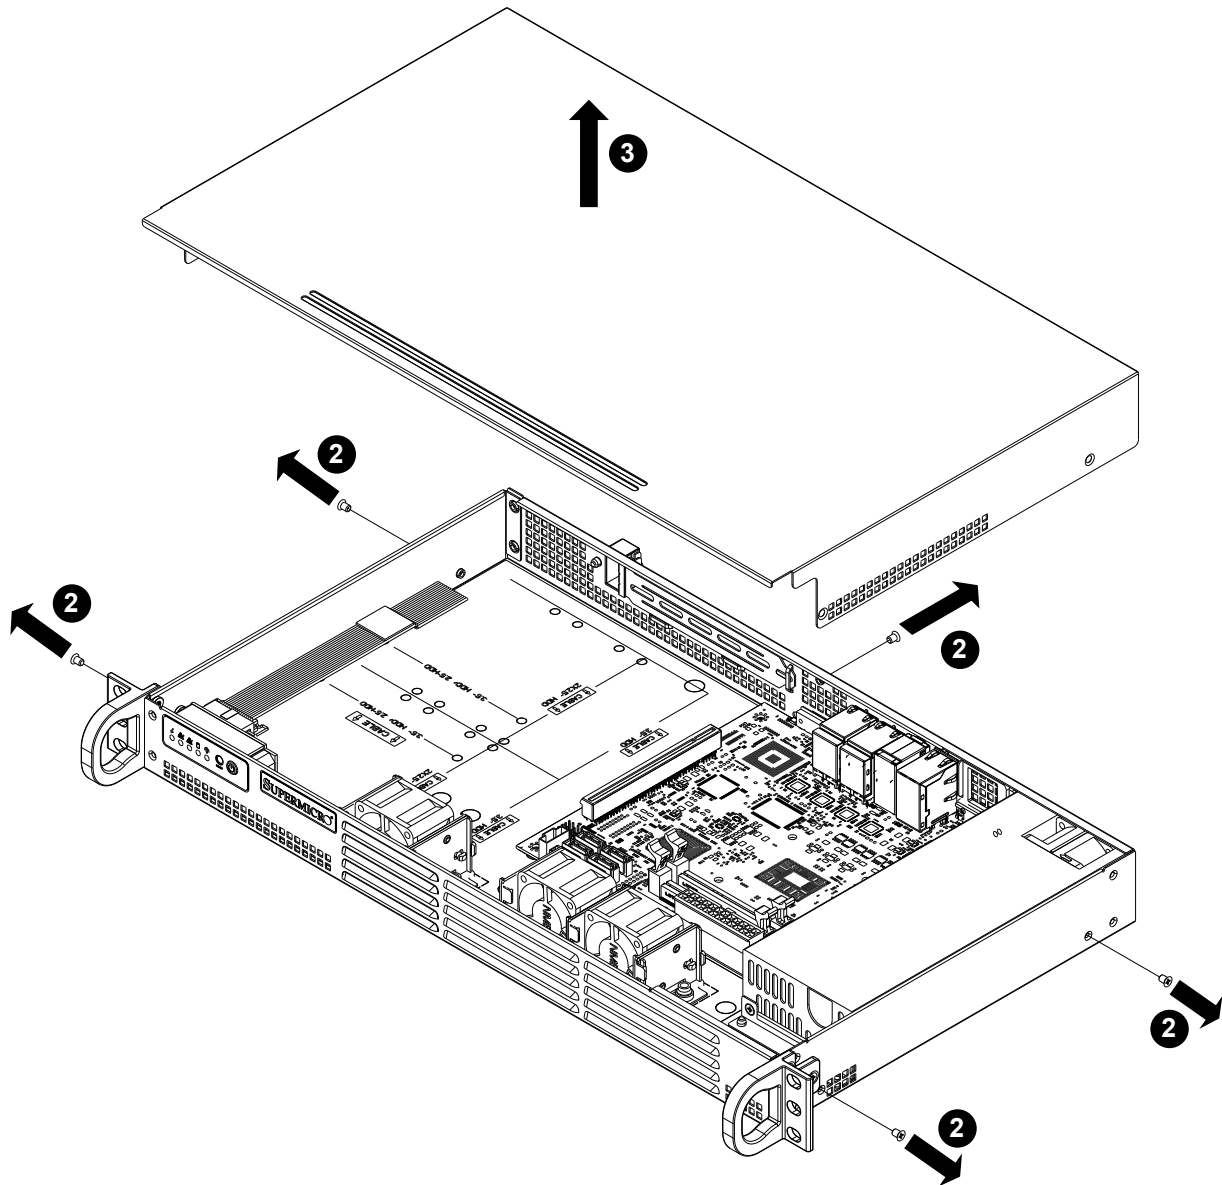

Figure 3-1. Removing the Chassis Cover
3. Slide the cover toward the rear of the chassis. See Figure 3.1.